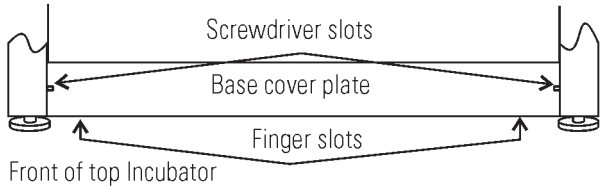

Figure 1-4. Remove Base Cover Plate
1. Designate one incubator to be the top unit and the other as the bottom unit. Remove the base cover plate from the top unit using the finger holes in the base or using a slotted screwdriver (Figure 1-4)